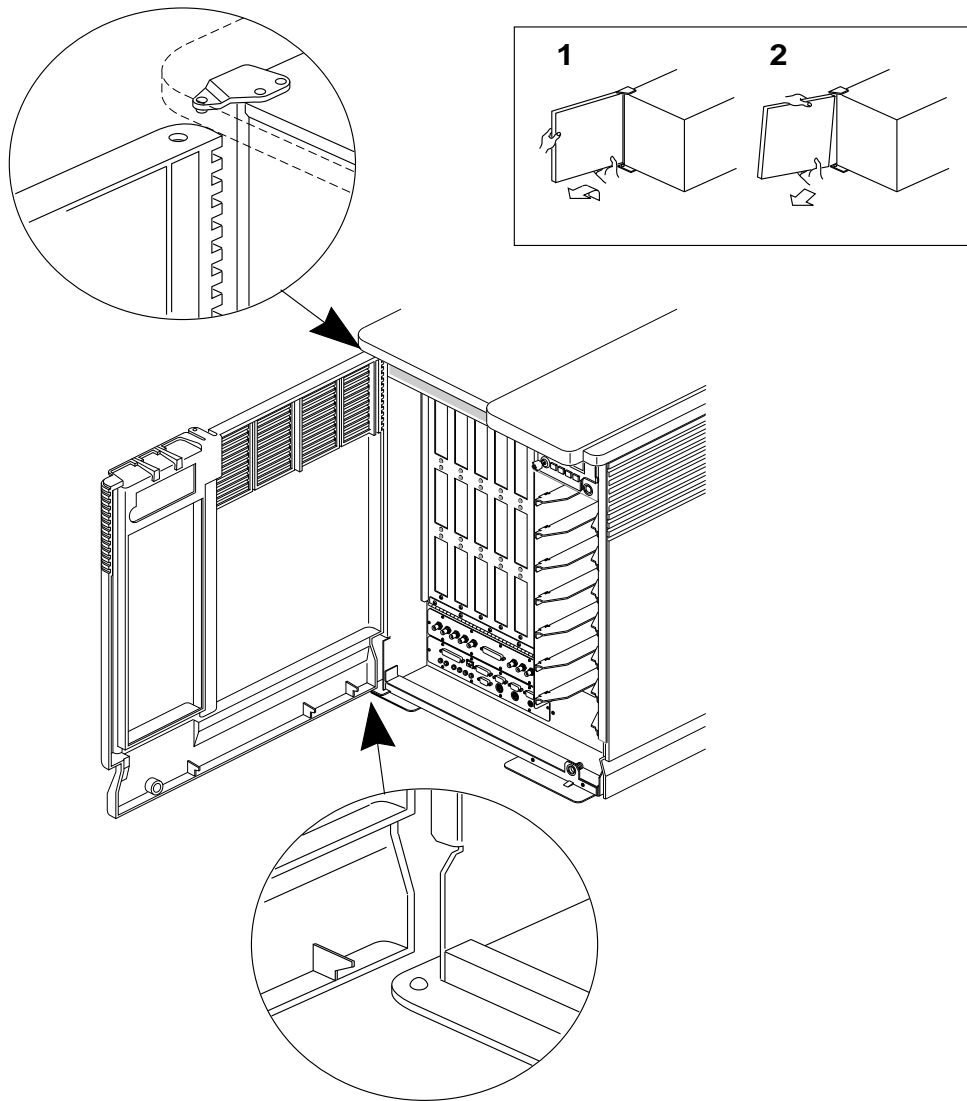

Figure 5-70 Removing the Front Door
2. Grasp beneath the lower hinged corner of the front door. See Figure 5-70.